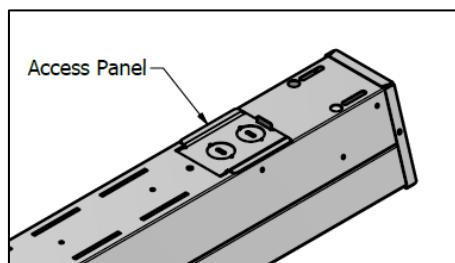

Figure 2
2. If necessary, open the access panel part shown in Figure 2 with a Robertson screw-